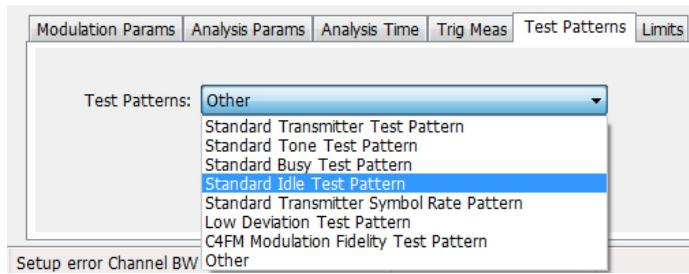
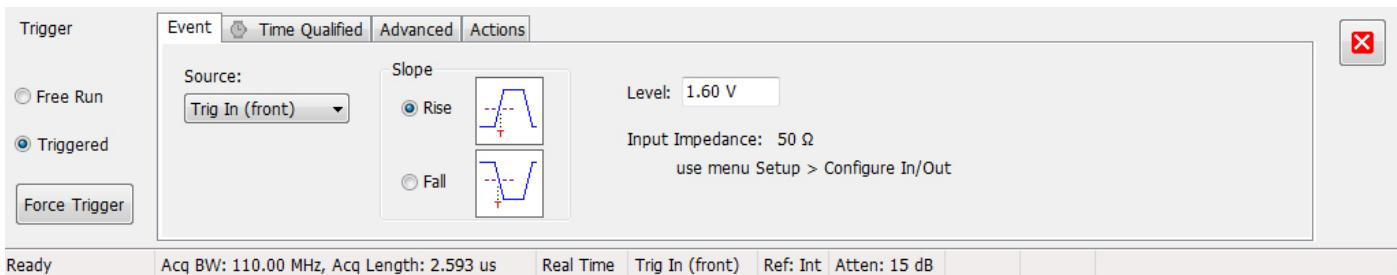
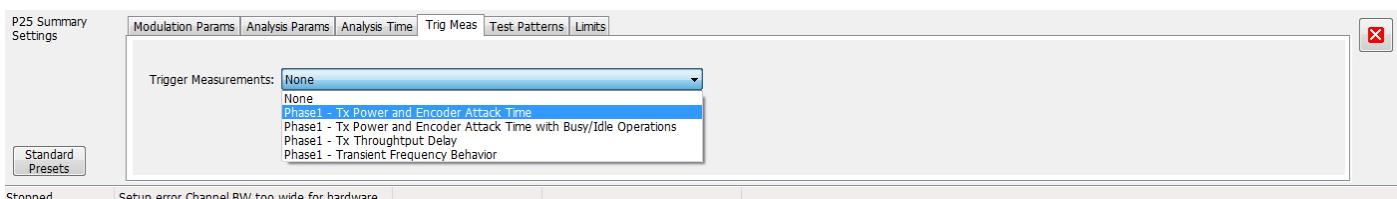

Figure 11. Selection of Test Patterns.
Figure 15. Operating Tektronix RSA5000 in triggered mode.
Figure 16. Selection of triggered measurements in the P25 Summary control panel.
- **How-to:** The users should bring up the P25 Summary settings panel. In this panel, the users should verify no trigger measurement have been selected (under the Trig. Meas tab). Please refer to Figure 16. The users need to select "none". They also need to select the correct test pattern that is modulating the DUT before pressing Run (either Low or High Deviation). This test pattern is selected under the Test Patterns tab of the P25 Summary settings panel as shown in Figure 11.
- **How-to:** The user should bring up the P25 Summary settings panel. In this panel, the user should verify no Trigger Measurement have been selected (under the Trig. Meas. tab); They also need to select the correct test pattern that is modulating the DUT under the Test Patterns tab (either the standard transmitter symbol rate pattern for Phase 1 or the standard transmitter high deviation test pattern (inbound or outbound) for Phase 2 associated with the modulation of the DUT) before pressing Run. Please refer to Figure 11.
**■ How-to:** The Spectrum Analyzer needs to be set in triggered mode. This is done under the Trigger menu on Tektronix RSA5000 as shown in Figure 15. Then the P25 Summary settings panel needs to have that particular triggered measurement setup as shown in Figure 16. Per the standard, this measurement needs to be performed 10 times by the user; the actual result reported in P25 Summary is the average of all the times measured over a maximum of 10 iterations. After 10 iterations, the number reported is the average of the last 10 iterations. The user needs to select enough acquisition length (please use the Acquisition control panel) to ensure that sufficient data is available when the acquisition is triggered.
- **How-to:** The throughput delay measurement has to be selected under Trig Meas in the P25 Summary control panel in similar fashion as shown in Figure 16. This measurement needs to be performed 10 times by the user. The Level set